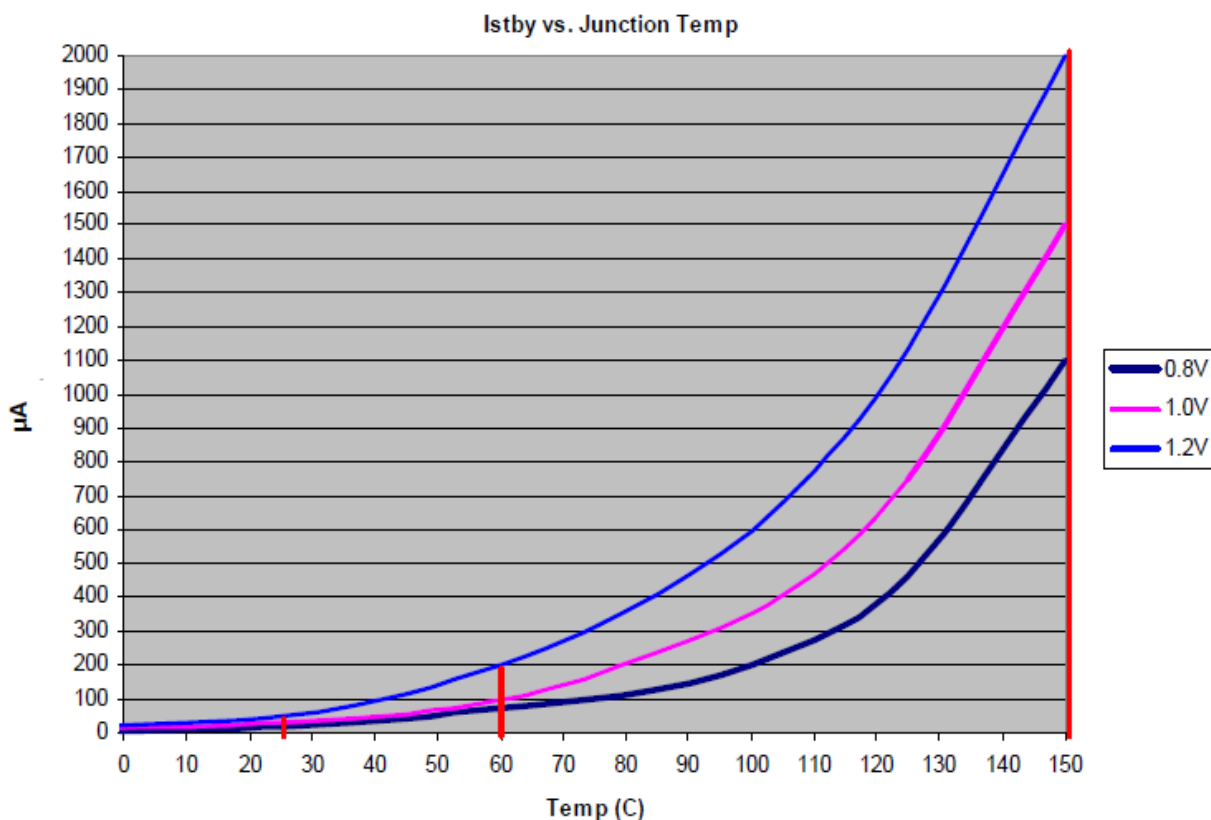

Figure 2. I_{STBY} Worst-case Specifications
Figure 2 shows an approximate interpolation of the I_{STBY} worst-case specification to estimate values at different voltages and temperatures. The vertical lines shown at 25 °C, 60 °C, and 150 °C in Figure 2 are the actual I_{DD_STBY} specifications (27d) listed in Table 9.
- ¹⁰ The current specification relates to average standby operation after SRAM has been loaded with data. For power up current see Section 3.7, "Power-Up/Down Sequencing", Figure 2.